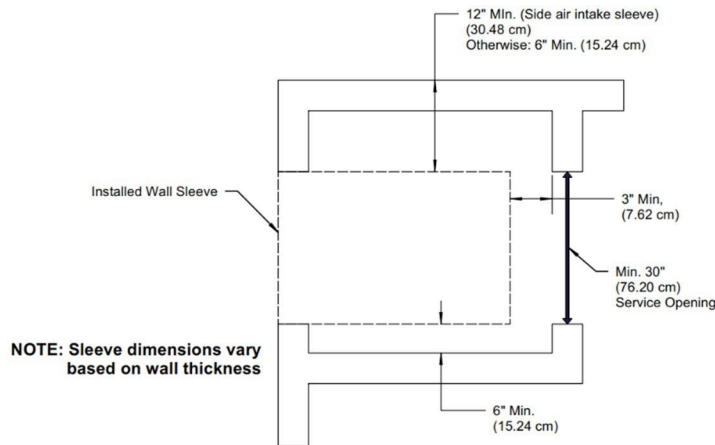

Figure 11 - Rear Installation
- Sleeve rough-in opening is 43-1/2 in. (H) [110.49 cm] x 26-3/4 in. (W) [67.94 cm].
- Minimum of 3 in. [7.62 cm] of clearance is required on all sides, except ERV fresh air (supply air) side, of the FRESH-PAK unit. See - **FIGURE 11- Rear Installation.**